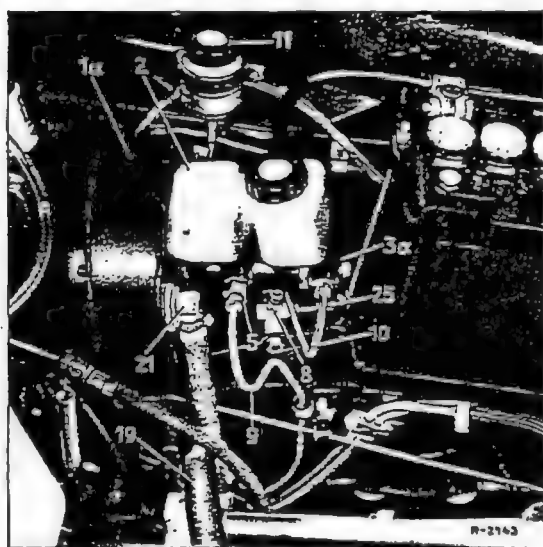

Fig. 42-3a/12
4. Detach the tandem master cylinder (5) from the power brake (1) and remove, paying attention to the O-ring (10) located in the groove of the tandem master cylinder (Fig. 42-3a/13).
If the 1st version tandem master cylinder is replaced by the 2nd or 3rd version (with the brake circuits connected the other way round) the brake line (10) to the distributor fitting (8) of the front wheel brake should be connected to the floating circuit pressure chamber and the brake line (9) to the rear wheel brake should be connected to the push rod pressure chamber. The second connection on the master cylinder which points downward should be closed with a screw plug (25) and a copper sealing ring Part No. 000 997 50 30 (Fig. 42-3a/12).